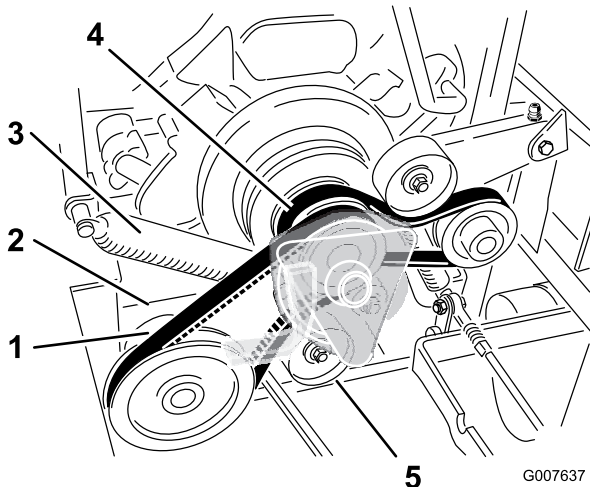

Figure 66
4. Remove the spring from the idler arm (Figure 66).
7. Install the PTO drive belt around the clutch pulley and the gearbox pulley (Figure 66).
9. Install the spring to the idler arm (Figure 66).